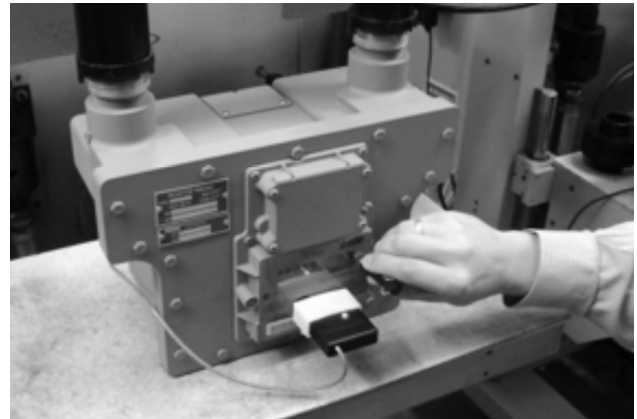

Figure 10.14 - Light on IrDA cable indicates connection is established
3. Place the meter into the Non-Compensated Prove mode. (Refer to Section 10.3 for information assistance.) Once the meter goes into prove mode the red light will switch from a flashing red light to a solid red light as shown in Figure 10.14. Now the meter test will start.